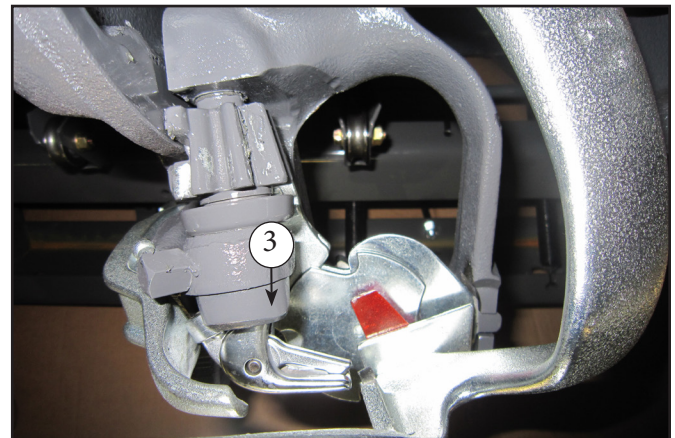

FIG. 60
FIG: 60: The billhook (1) makes a knot by forming a loop in the twine and threading the ends through the loop as the loop is pulled off the billhook by the stripper arm.